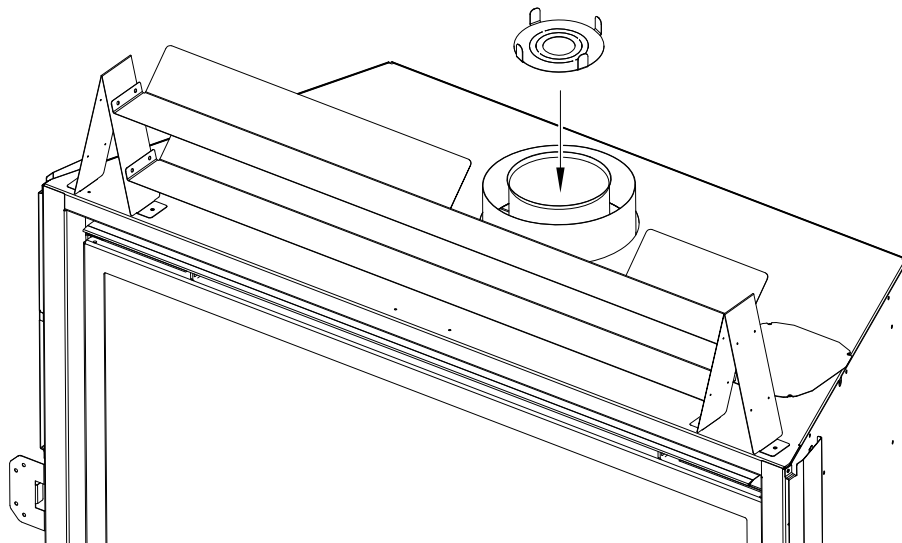

Figure 8.1 - Restrictor Installation
- The restrictor plate is shipped with all inner rings intact, and when installed, provides the most vent restriction. There are (2) inner rings that can be knocked out. As you knock out and remove an inner ring you have less vent restriction where removing both inner rings you will have the least amount of vent restriction.
- Follow FIGURE 8.1 for restrictor plate installation before attaching venting or through the baffle if venting is already attached. For vent restriction plate recommendations and adjustments, see section 12.2.3, Vent Restriction (after installation).